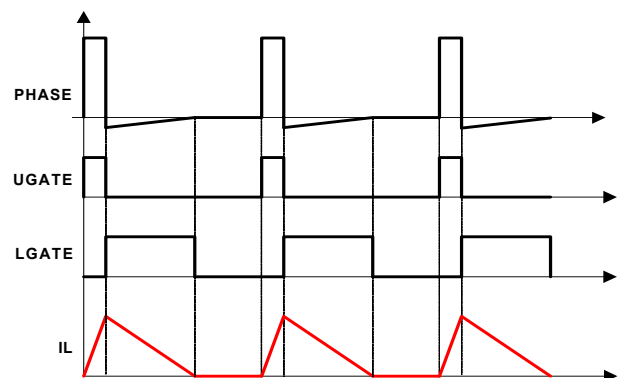

Figure 37. Diode Emulation
The R3 modulator can operate in Diode Emulation (DE) mode to increase light-load efficiency. In DE mode, the low-side MOSFET conducts when the current is flowing from source-to-drain and does not allow reverse current, emulating a diode. As shown in Figure 37, when LGATE is on, the low-side MOSFET carries current, creating negative voltage on the phase node because of the voltage drop across the ON-resistance. The IC monitors the current by monitoring the phase node voltage. It turns off LGATE when the phase node voltage reaches zero to prevent the inductor current from reversing the direction and creating unnecessary power loss.
If the load current is light enough, as Figure 37 shows, the inductor current reaches and stays at zero before the next phase node pulse and the regulator is in Discontinuous Conduction Mode (DCM). If the load current is heavy enough, the inductor current never reaches 0A and the regulator is in CCM although the controller is in DE mode.